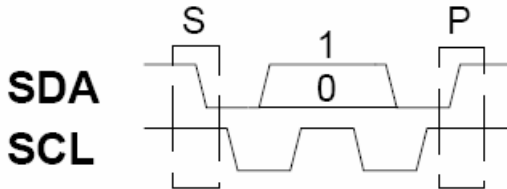

Figure 2. I²C protocol definitions
Two wire I²C bus protocol has special bus signal conditions. Figure 2 shows start (S), stop (P) and binary data conditions. At start condition the SCL is high and SDA has falling edge. At stop condition
Each I²C bus operation like write starts with start command (see figure 2). After start the H28 device address with write bit (AW, see table 2) is sent and ended to acknowledge (A). After this control register address (AC, see table 3) is sent
and ended to acknowledge (A). Next control register data (DC, see table 1) is written and ended to acknowledge (A). Finally the I2C bus operation is ended with stop command (see figure 2).